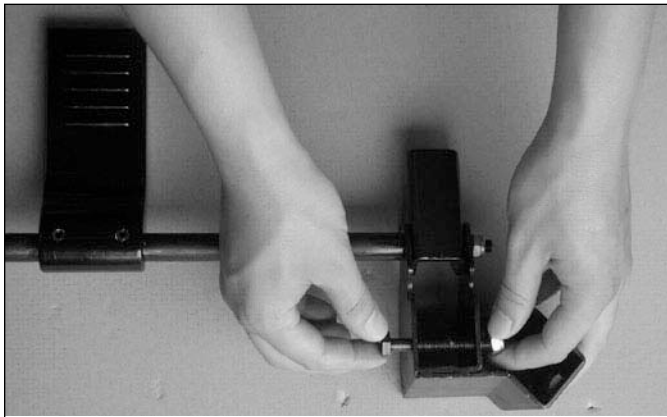

Figure 7
- Refer to Figure 7; loosen and remove the bolt and hex nut from the support. Rotate foot pedal bar so that kick plate cam is inside bracket. The kick plate cam must be underneath the caster to function properly.